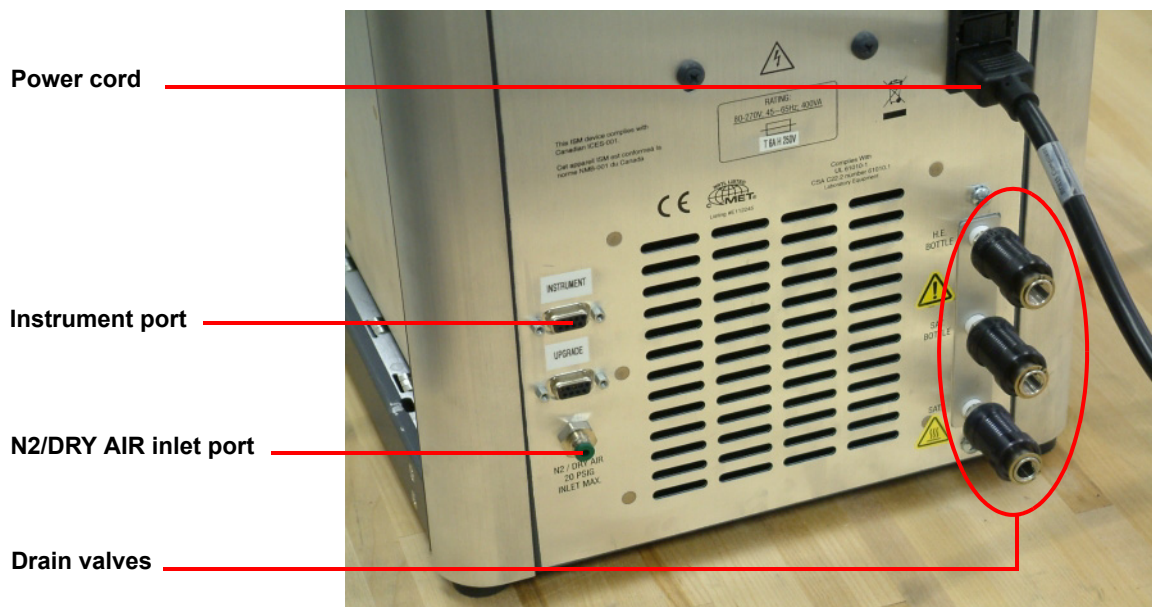

Figure 3 Connection ports and drain valves on back of DMA-RH Accessory.
- 2 Ensure that all drain valves (circled in Figure 3 above) are closed by pushing them in as far as allowable.